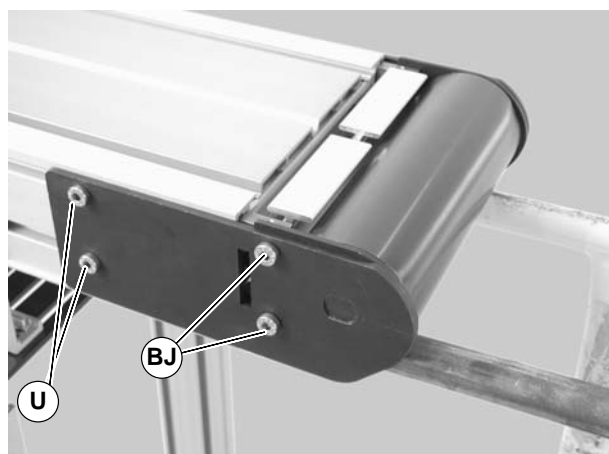

Figure 53
2. On one side of conveyor, loosen the two (2) back fastening screws (U of Figure 53) and remove two (2) front fastening screws (BJ).